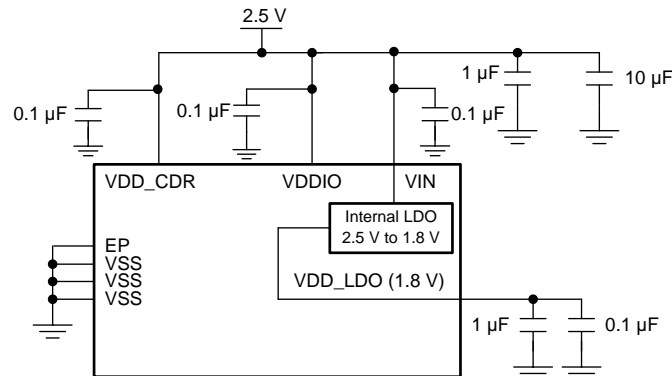

Figure 39. Typical Connection for Single 2.5 V Supply
- **Single Supply Mode (2.5 V):** This mode offers ease of use, with the internal circuitry receiving power from the on-chip 1.8 V regulator. In this mode, 2.5 V is applied to VDD_CDR, VIN, and VDDIO. See Figure 39 for more details.